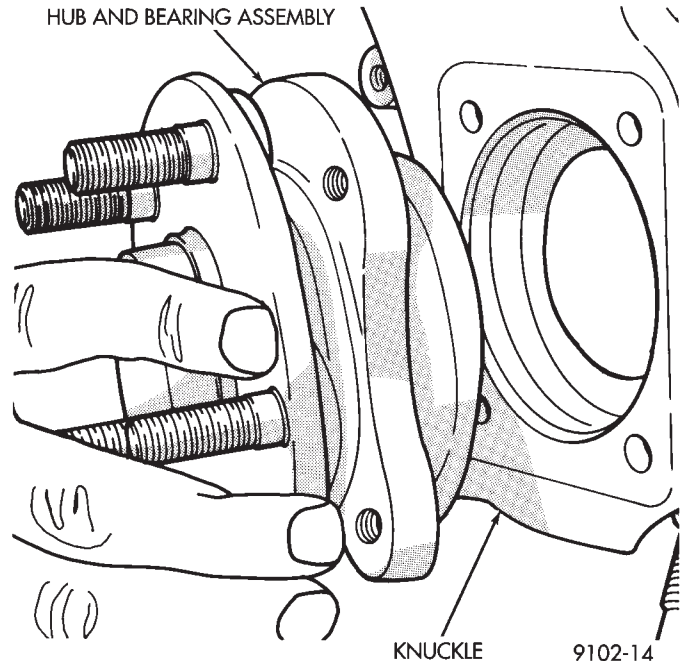

Fig. 10 Remove Or Install Hub and Bearing Assembly
(11) Mount the steering knuckle in a vise and remove the 4 bolts on back of steering knuckle, attaching the hub and bearing assembly. Remove the hub and bearing assembly from the steering knuckle (Fig. 10).
(1) Install the hub and bearing assembly into the steering knuckle (Fig. 10). Install the 4 hub and bearing assembly to steering knuckle attaching bolts and torque in a criss-cross pattern to 65 N•m (45 ft. lbs.)